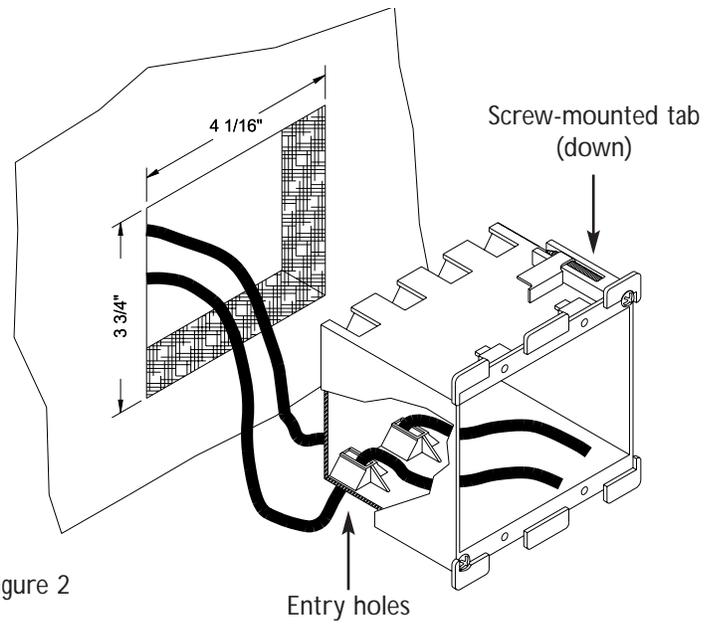

Figure 2
- 3) Push each of the separate cables through the electrical box entry holes and pull about 6" of cable out of the front of the box (see Figure 2).